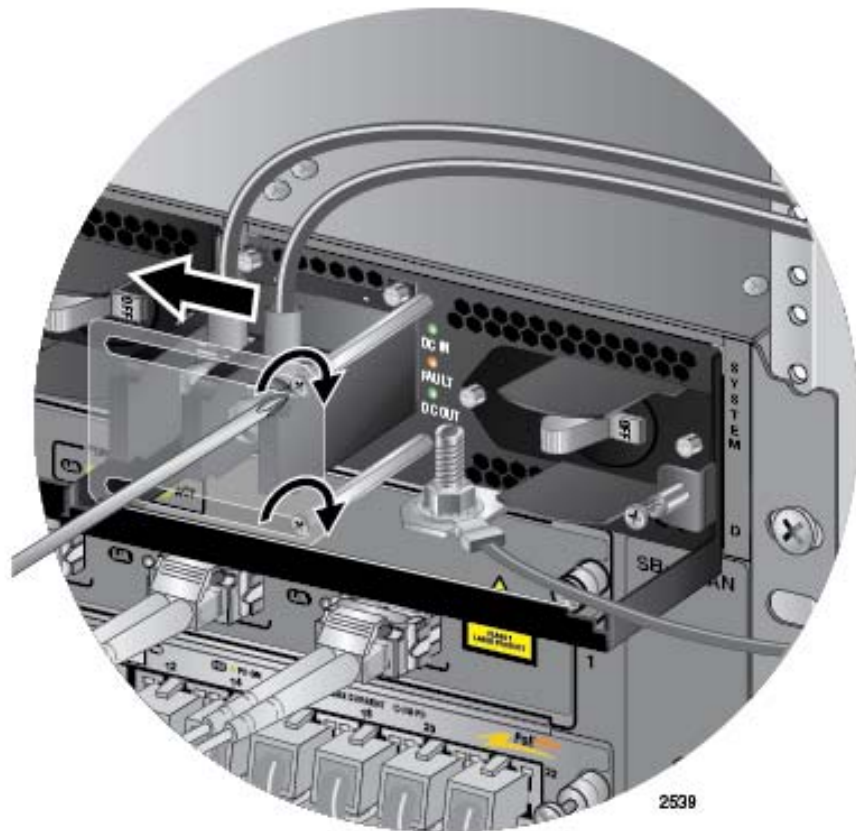

Figure 127. Closing the Plastic Cover over the Terminal Connectors
8. Slide the plastic cover to the left and lightly tighten the two screws with a #1 Phillips-head screwdriver to secure the cover. See Figure 127 on page 188. You might need to lift the locking handle slightly to access the bottom screw.
- Slide the plastic cover to the left and lightly tighten the two screws with a #1 Phillips-head screwdriver to secure the cover. See Figure 127 on page 188. You might need to lift the locking handle slightly to access the bottom screw.